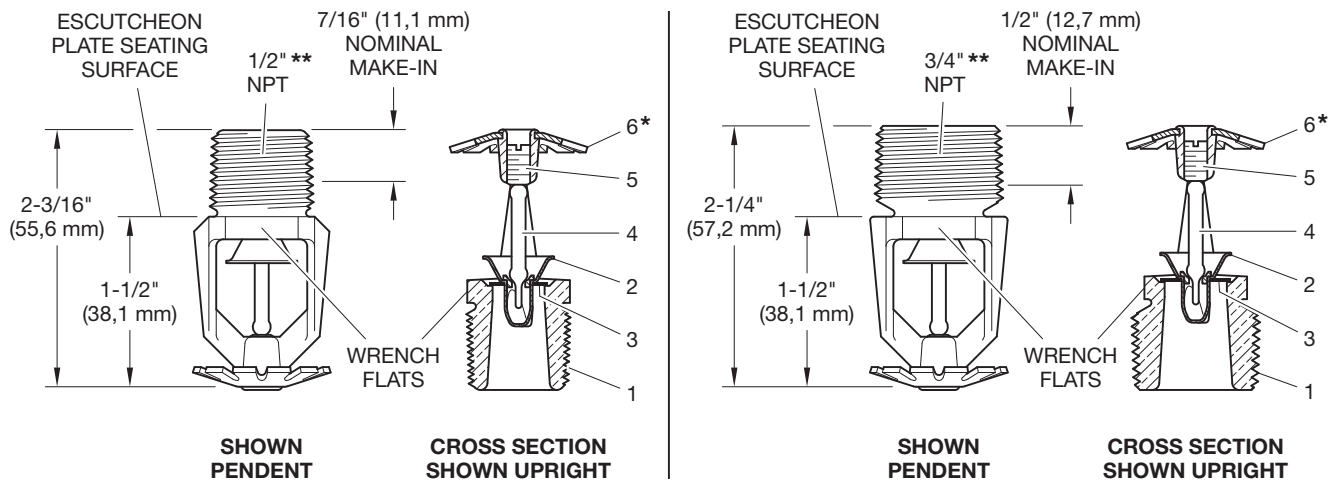

FIGURE 1
Step 2. Tighten the sprinkler into the sprinkler fitting using only the W-Type 6 Sprinkler Wrench (Ref. Figure 2). With reference to Figure 1, the W-Type 6 Sprinkler Wrench is to be applied to the Wrench Flats.